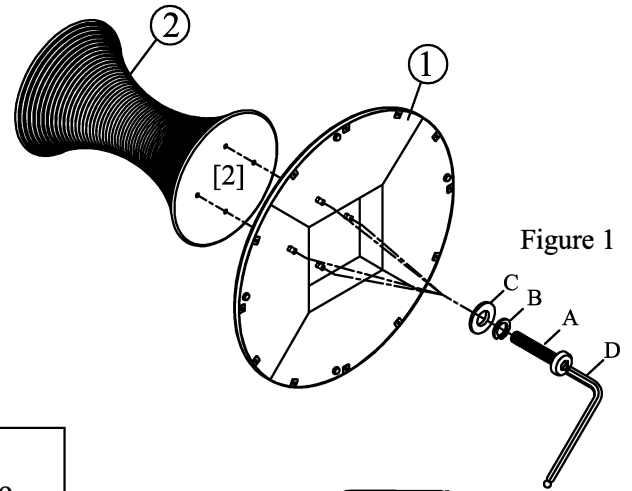

Figure 1
STEP 1. Assemble base (1) and post (2) using bolt (A), lock washer (B), flat washer (C) and tighten them by allen key (D). See Figure 1